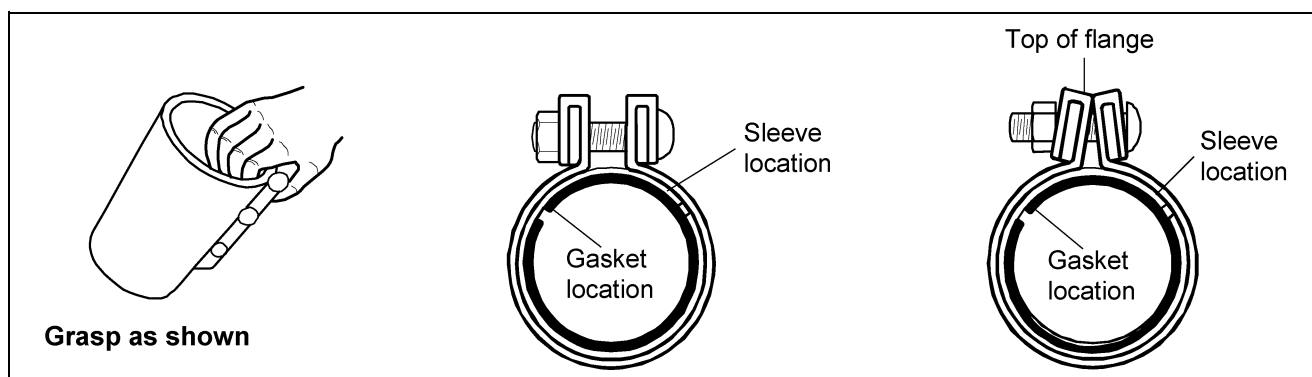

Figure 14A
Couplings are shipped ready-to-install. Do not disassemble. To prevent gasket from slipping out of proper position, always grasp coupling as shown in Figure 14A. This will save time by maintaining proper position of gasket and sleeve in relation to shell and flange.
3. Grasp coupling as shown in Figure 14A to keep gasket and sleeve (and gasket protector when used) in separate quadrants, as shown in Figure 14A. Be sure gasket teeth mesh and do not overlap.
7. When properly and evenly tightened to the recommended torque the coupling installation is complete. The top edges of the flanges will touch and flanges appear as a vee when viewed from the end, as shown in Figure 14A. **DO NOT** attempt tightening bolts to flatten flange faces together, as this exceeds recommended limits.